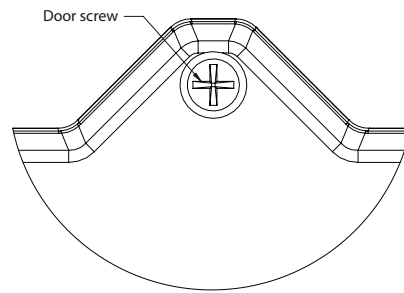

FIG. 2
2. Using Phillips screwdriver, loosening door screw **FIG. 2**. Support door while it swings open.